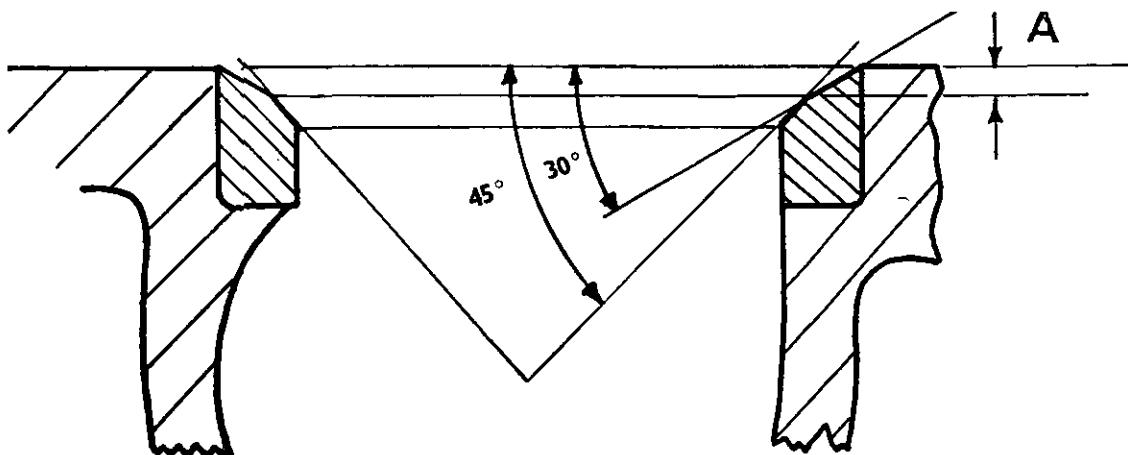

Fig. E.11. Showing Flare to be cut at  $30^\circ$ .
6. For inlet valve inserts, machine the "flare" to the dimensions given in Fig. E.11 using the valve guide bore as a pilot.
- (a) Machine to the dimensions given in Fig. E.11 and continue as in stages 7 and 8.